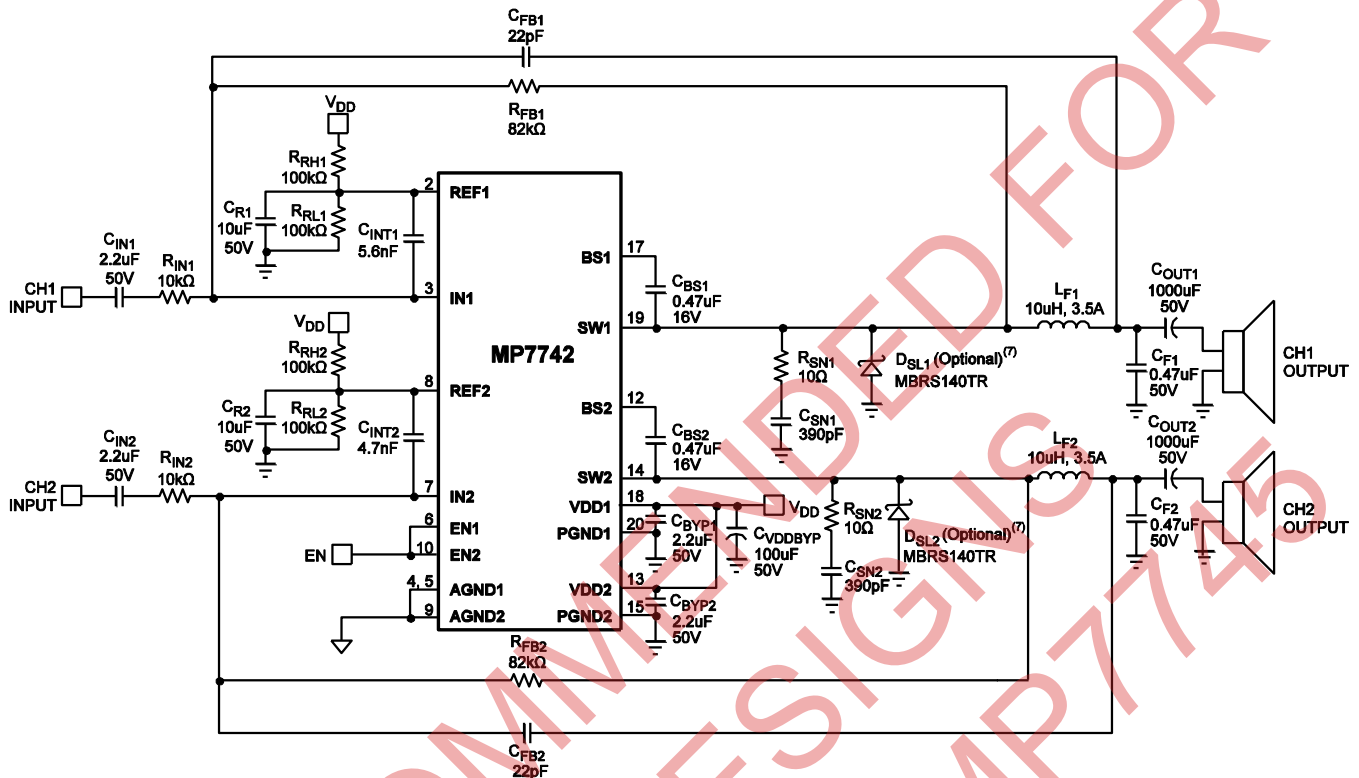

Figure 1—2 x 15W Stereo Typical Application Circuit
Circuit of Figure 1, $V_{DD}=24V$, $V_{EN}=5V$, $T_A = +25^{\circ}C$, unless otherwise noted.
The MP7742 uses a minimum number of external components to complete a stereo Class D audio amplifier. The circuit of Figure 1 is optimized for a 24V power supply. This circuit should be suitable for most applications. However, if this circuit is not suitable, use the following sections to determine how to customize the amplifier for a particular application.
Table 1—Switching Frequency vs. V_{DD} , Timing Capacitor and Feedback Resistor (see Figure 1)
The Inductor-Capacitor (LC) filter converts the pulse train at SW to the output voltage that drives the speaker. Typical values for the LC filter are shown in Figure 1, 10 μ H inductor and 0.47 μ F capacitor.